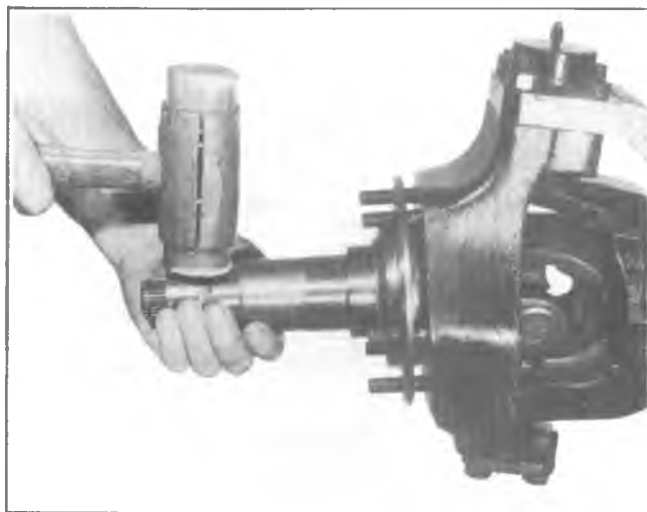

Fig. 3C-19K--Removing Spindle
6. Remove upper king-pin from yoke with large breaker bar and J-26871, as seen in Figure 3C-24K.